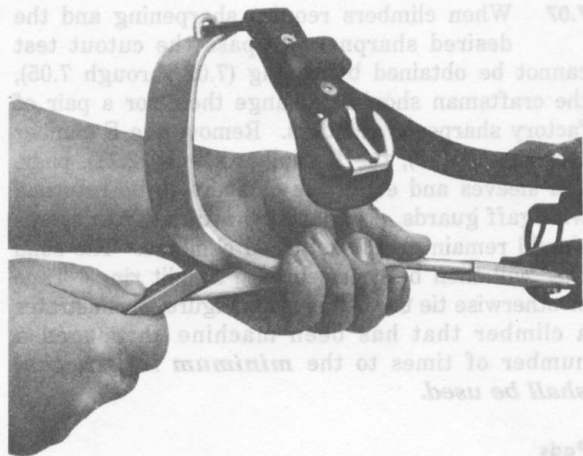

Fig. 19—Honing Inner Surface
**7.04** Hone the inner surface of the gaff by starting the stroke near the leg iron and continue over rounded curve of tip as indicated in Fig. 19. Stop the honing stroke before the stone slides off the end of the gaff to prevent dulling the tip. About 20 to 25 strokes of the honing stone should be enough. *Do not attempt to reshape the tip of the gaff.*